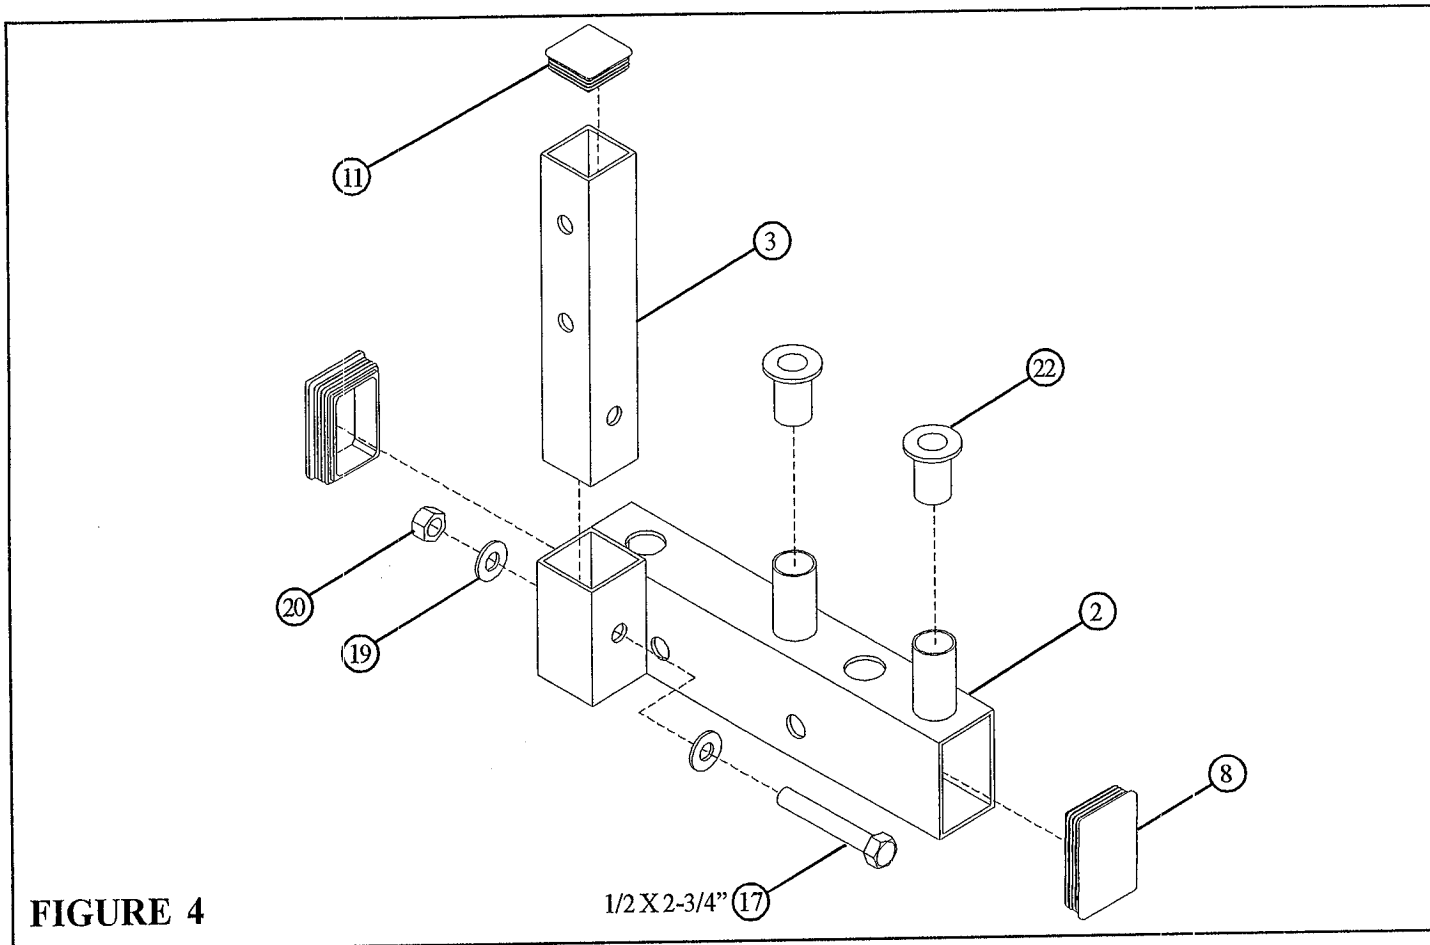

FIGURE 4
- Insert two 3 X 2" END CAPS (8) into the ends of the STACK BOOM (2) as shown in FIGURE 4.
- Insert two GUIDE ROD BUSHINGS (22) into the tubes on the STACK BOOM (2) as shown in FIGURE 4.
- **SECURELY** assemble the 1-3/4 X 9-3/8" TUBE (3) to the STACK BOOM (2) using one 1/2 X 2-3/4" BOLT (17), two 1/2" WASHERS (19), and one 1/2" LOCK NUT (20) as shown in FIGURE 4.
- Insert one 1-3/4" END CAP (11) into the 1-3/4 X 9-3/8" TUBE (3) as shown in FIGURE 4.